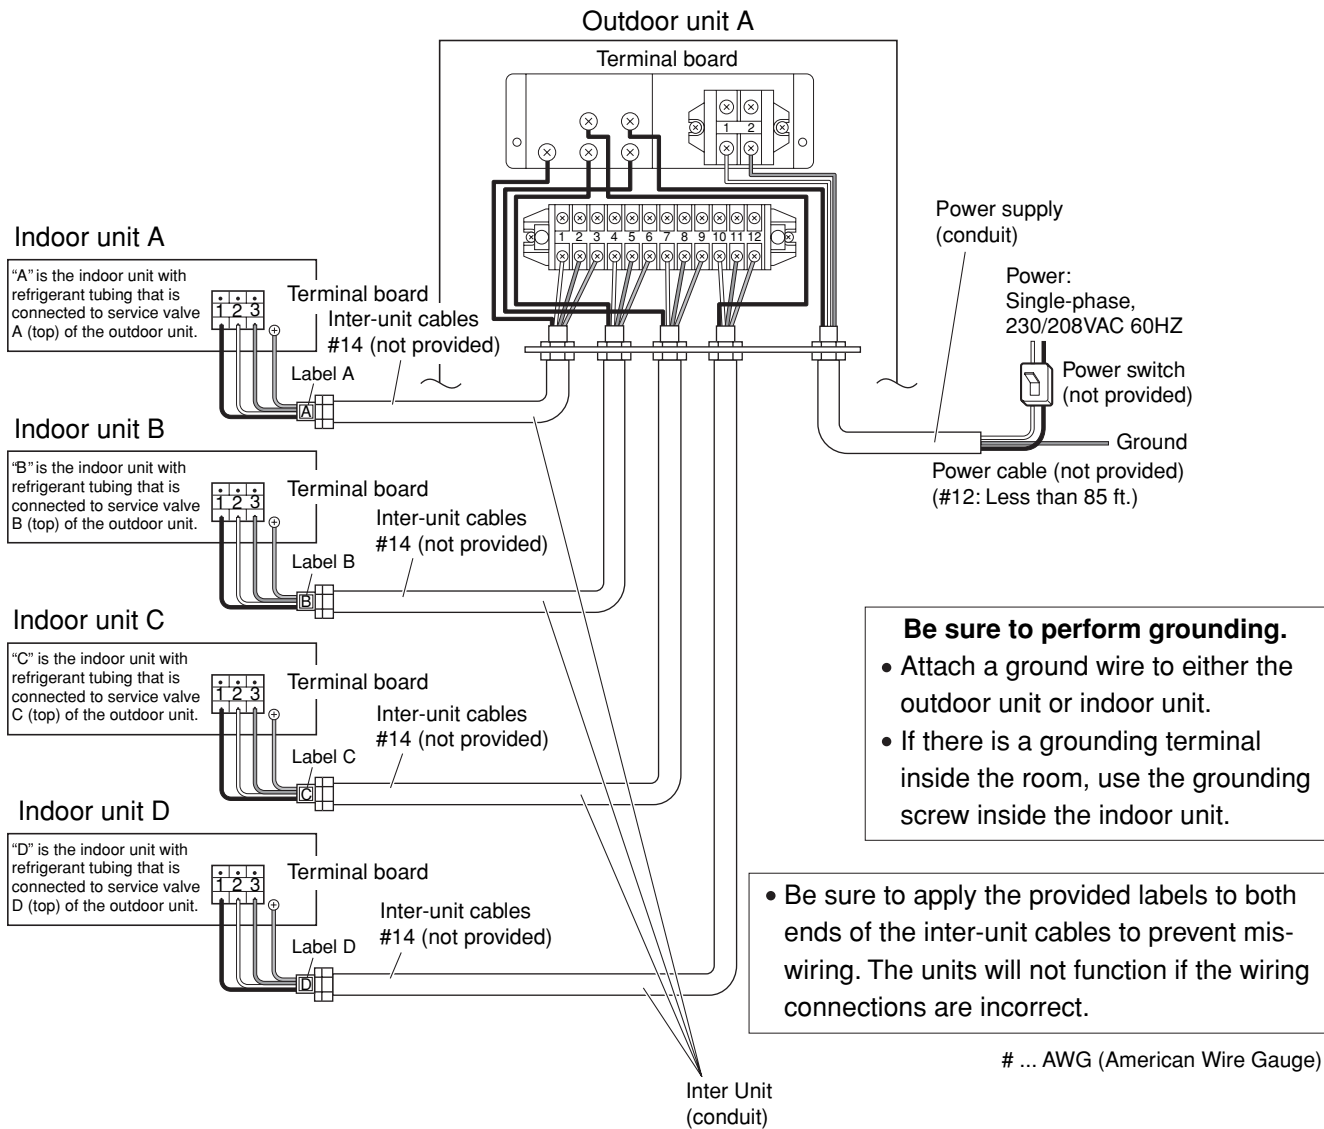

Fig. 31
- Arrange the wiring so that the inter-unit cables are contained in the inspection panel and tubing panel, as shown in Fig. 31.